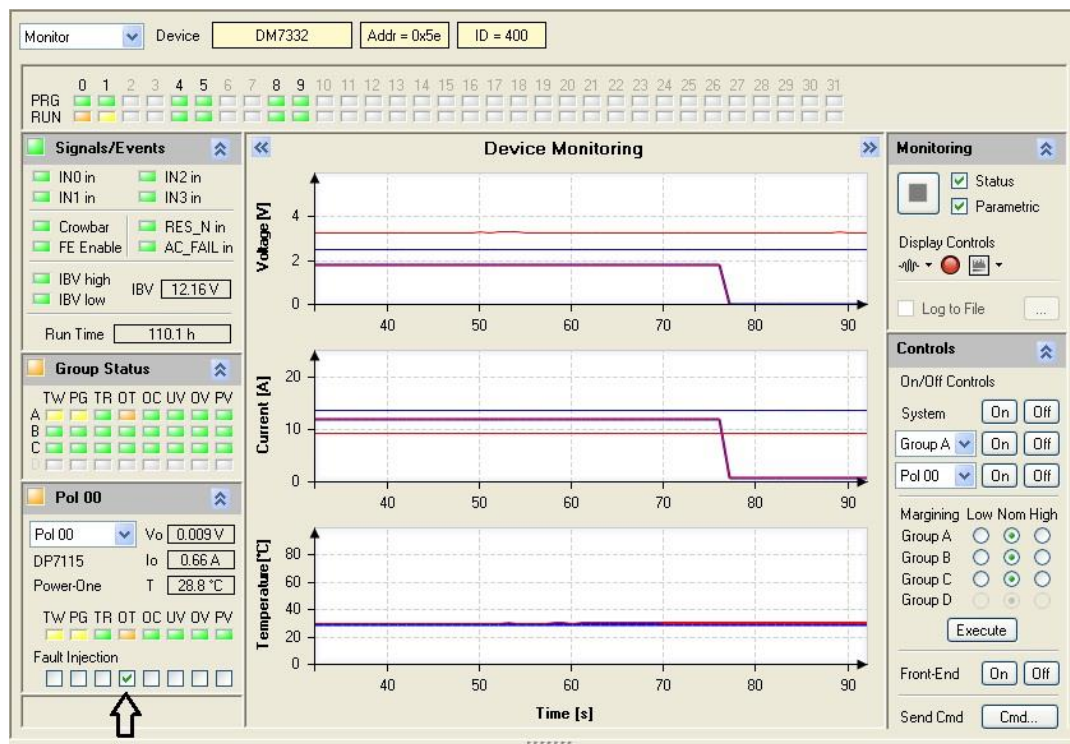

Figure 48 Example Overtemp Fault Injection in the GUI
In Figure 48 we see the effects of injecting an Overtemp (OT) fault. Note that dPOL-0 shows an OT fault. dPOL-0 and -1 are in the same Group and fault propagation for the dPOL is to propagate to the group. dPOL -4 and above are in Groups B and C. Propagation is not enabled from Group A to B.